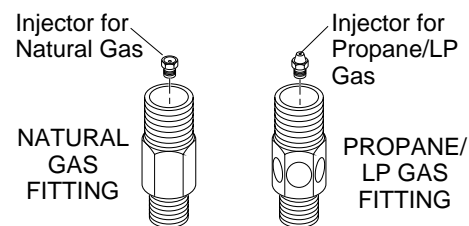

Figure 15 - Burner Inlet Fittings with Injectors
- Remove the burner inlet fitting from the burner pan assembly. DO NOT remove the orifice from this fitting. The propane/LP burner inlet fitting is included in the hardware kit (see Figure 15).